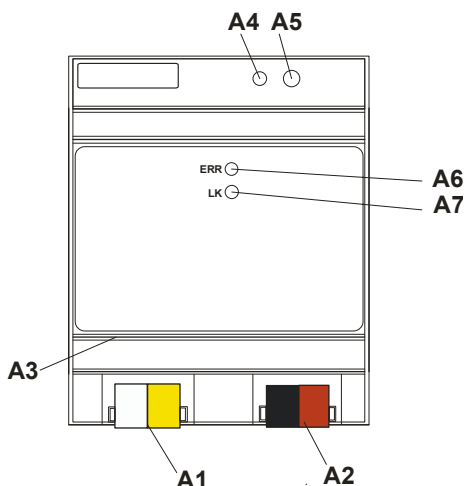

figure 2: Location / function of the display and operating elements
- Connect the auxiliary power AC/DC 24V with the yellow-white bus connector terminal (figure 2, A1).
- Connect the bus line with the black-red bus connector terminal (figure 2, A2).
- Plug an Ethernet patch cable with an RJ45 plug into the RJ45 socket (figure 2, A3) to connect the device with the LAN / Intranet.
A connection is established to the network when the yellow LED marked ERR (figure 2, A6) is continuously lit. When the LED LK (figure 2, A7) flashes data is sent to or from the device.
- Unplug the Ethernet patch cable from the RJ45 socket (figure 2, A3).
- Remove the yellow-white bus connector terminal (figure 2, A1) from its socket.
- Remove the black-red bus connector terminal (figure 2, A2) from its socket.